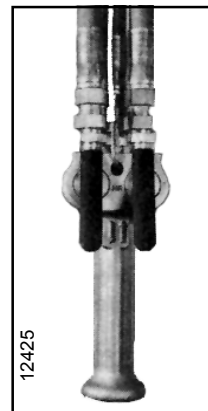

Figure 3-1. Pendant Throttle Control Handle
3-1. GENERAL. Operation of **BUDGIT** Series 6000 Air Hoists is controlled by a pendant throttle control. The Pendant Throttle Control has a convenient lever type control valve handle (Figure 3-1) suspended from the control manifold.
- a. Depress throttle valve lever marked ↑ to raise load. See Figure 3-1.